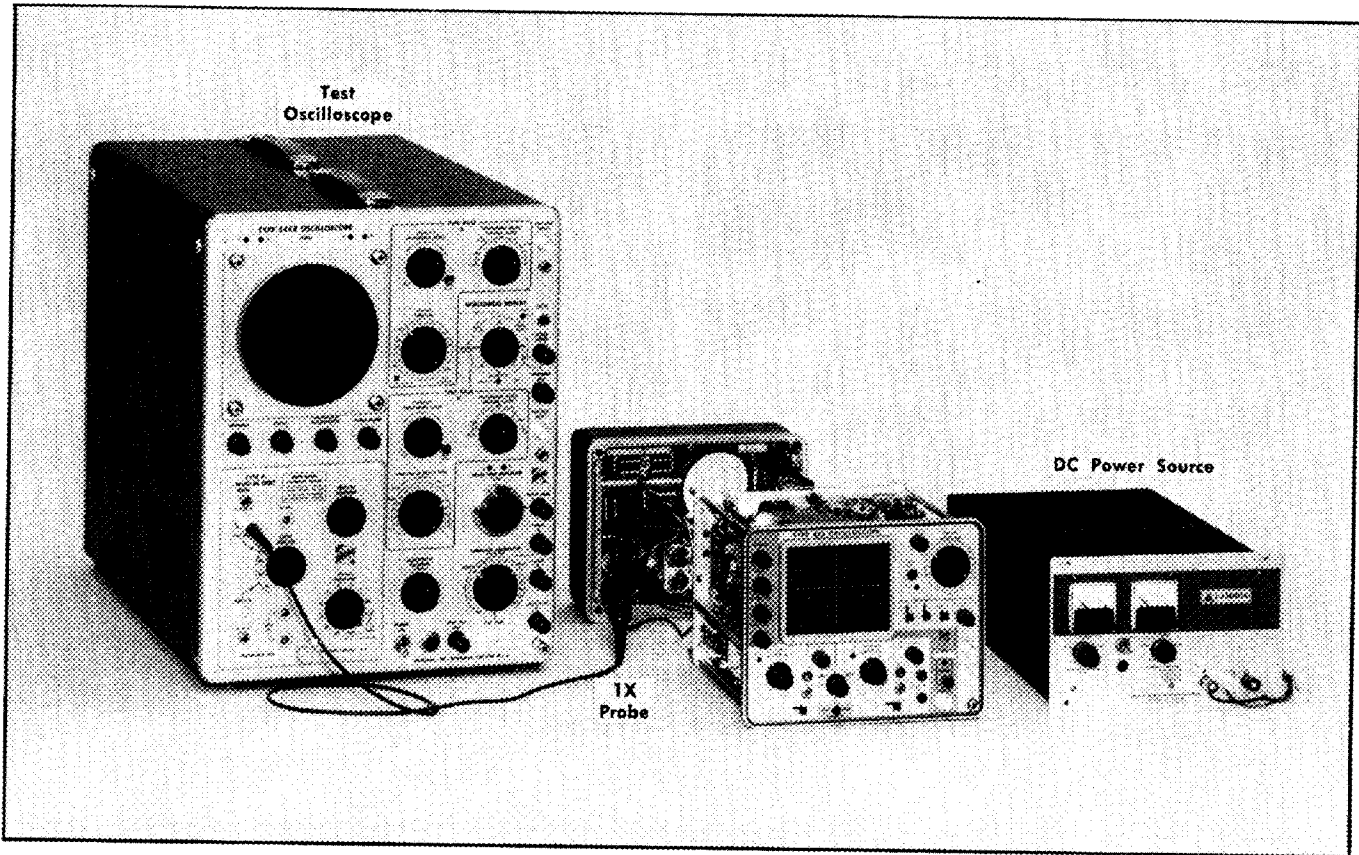

Fig. 6-3. Test equipment setup for Blocking Oscillator Frequency adjustment.
2. Adjust Blocking Oscillator Frequency ❶
- a. Test equipment setup is shown in Fig. 6-3.